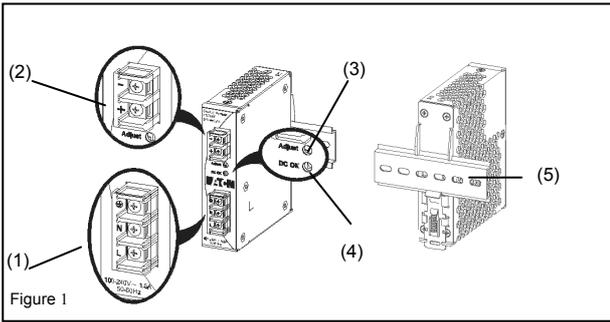

Figure 1
### 2. Device description (Fig. 1)
### 5.1. Input connection (Fig. 1 and Fig. 5)
### 5.2. Output connection (Fig. 1 (2))
Use the "+" and "-" screw connections to establish the 24 VDC connection. The output provides 24 VDC. The output voltage can be adjusted from 22 to 28 VDC on the potentiometer. The green LED DC OK displays correct function of the output (Fig. 1 (4)). The device has a short circuit and overload protection and an over voltage protection limited to 35 VDC.